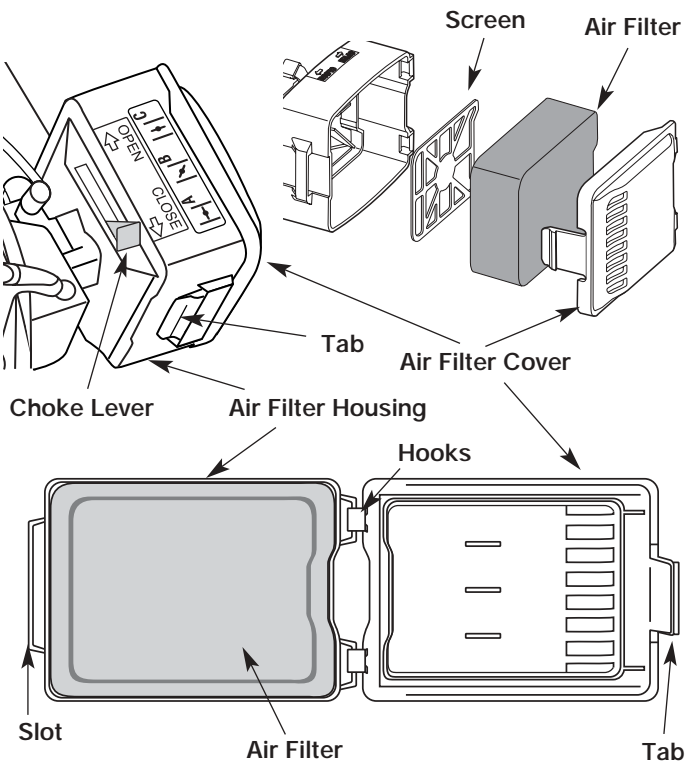

Fig. 22
1. Open the air filter cover. Push the tab on the left side of the cover in, swing the air filter cover out and off the air filter housing (Fig. 22).
2. Remove the air filter and the screen that sits behind it (Fig. 22).
6. Replace the filter and screen (Fig. 22).
7. Reinstall the air filter cover. Position the hooks on the right side of the air filter cover into the slots at the right side of the air filter housing (Fig. 22).
8. Swing the cover to the left until the tab on the air filter cover snaps into place in the slot on the left side of the air filter housing (Fig. 22).